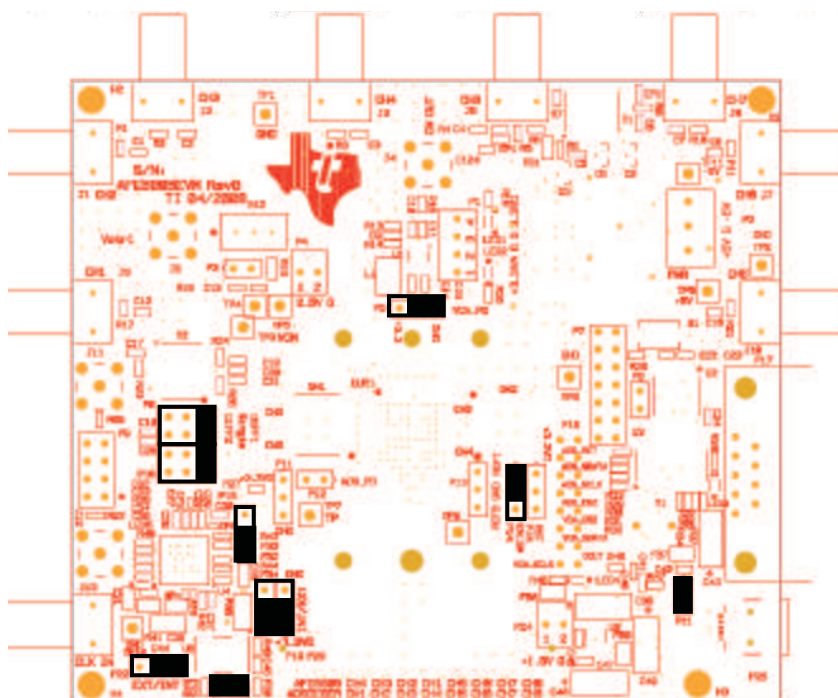

Figure 4. Default Setup for Jumpers
- P18: Because U4 is uninstalled, this jumper must be set as Figure 4 shows
When HP8644 or similar clock sources are unavailable, the onboard 40-MHz clock is the desirable source. The jumpers P22, P23, and P18 should be configured as shown in Figure 4 (i.e., the default setup for AFE5805EVM). In this mode, the transformer-based differential clock is used.